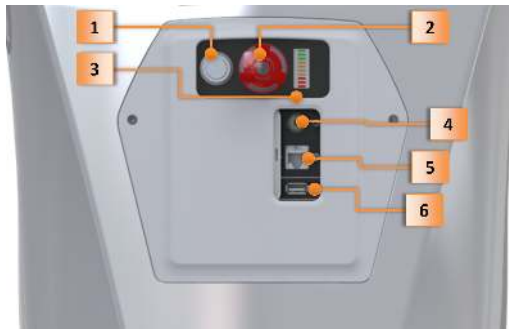

Figure 19: First level
- First level: access to power and emergency switch and basic communication ports (Figure 19).